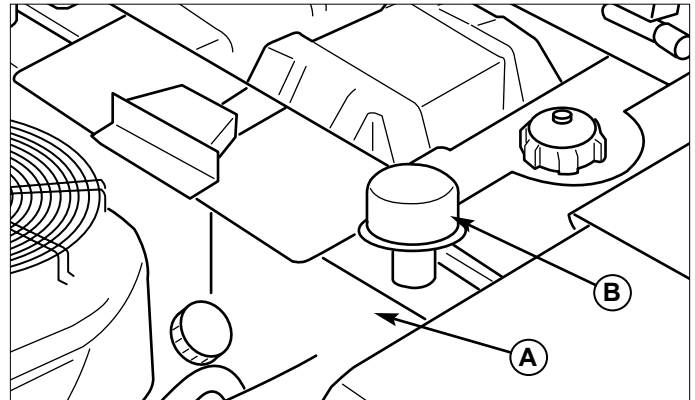

Figure 10. Checking Hydraulic Oil Level
1. Remove the breather (B, Figure 10) from the filler neck of the hydraulic oil reservoir (A, Figure 10).